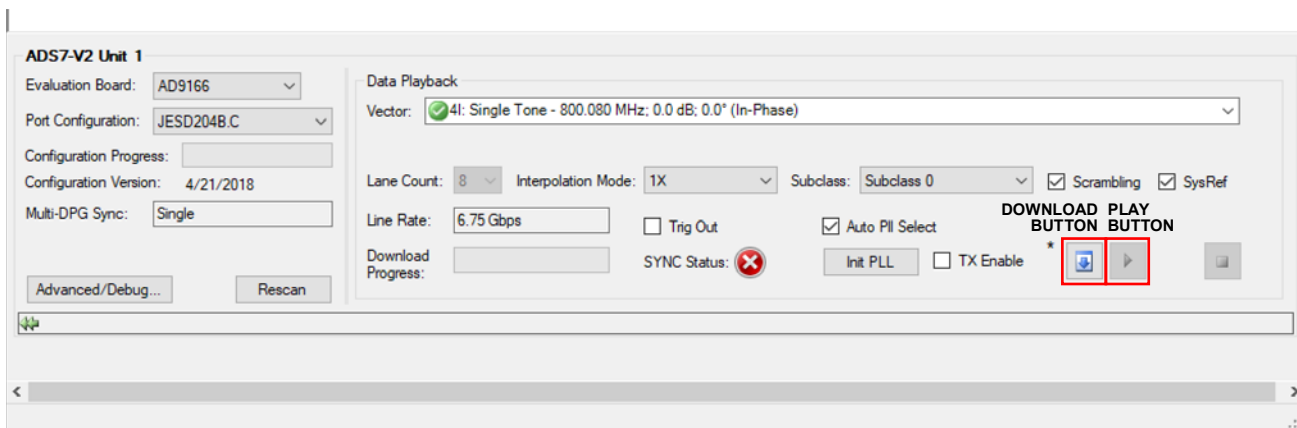

Figure 11. DPGDownloader: Selected Vector and Downloaded to the ADS7-V2EBZ
12. Leave the other options at the default values. The **SYNC Status** indicator may show a red cross, as shown in Figure 11.
8. Click the download button in the bottom right of the **DPGDownloader** window (see Figure 11) to allow the **DPGDownloader** to create and redownload the new vector. The redownload may momentarily bring the JESD204B link down. However, the link recovers and resynchronizes, and the new output frequency displays on the spectrum analyzer.